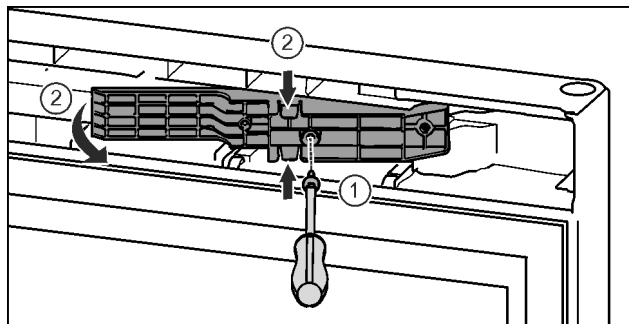

Fig. 14 \*
- Loosen the screws with the T15 screwdriver. *Fig. 14 (1)\**
- Pull out the adapter. *Fig. 14 (2)\**